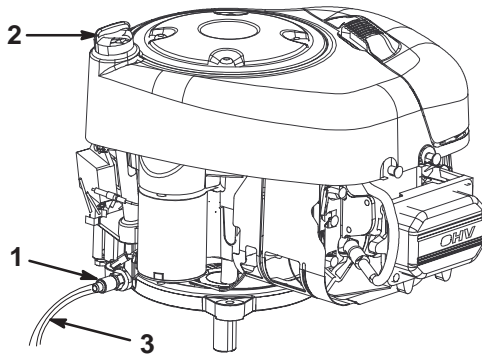

Figure 18
9. Insert the draining tube onto the oil drain valve (Fig. 18).
11. Open the oil drain valve (Fig. 18).